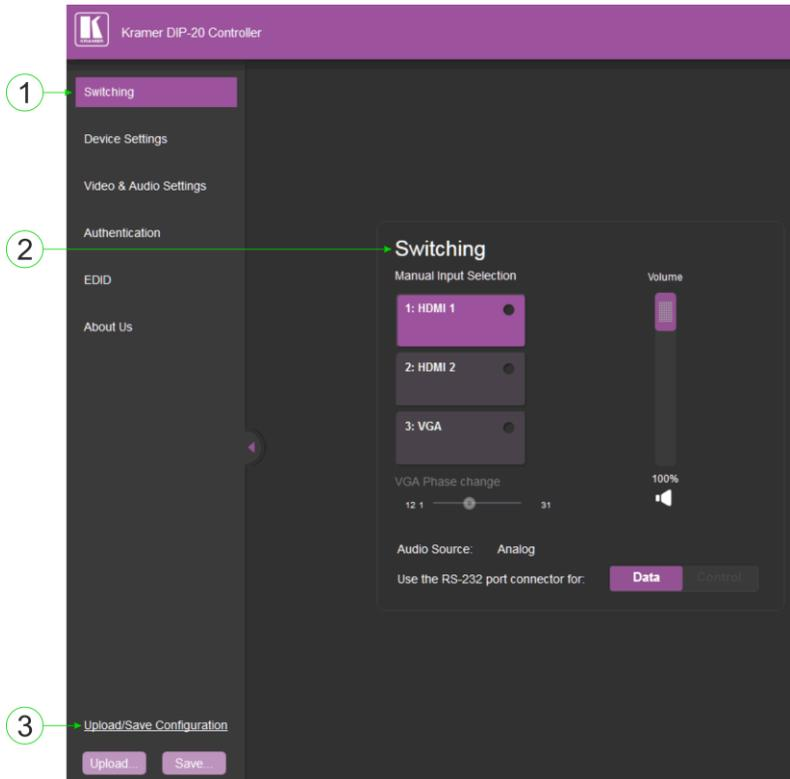

Figure 9: The Main Switching Page
The Switching page appears as shown in Figure 9.
The Upload/Save Configuration facility (see item 4 in Figure 9) lets you retrieve and save a configuration.